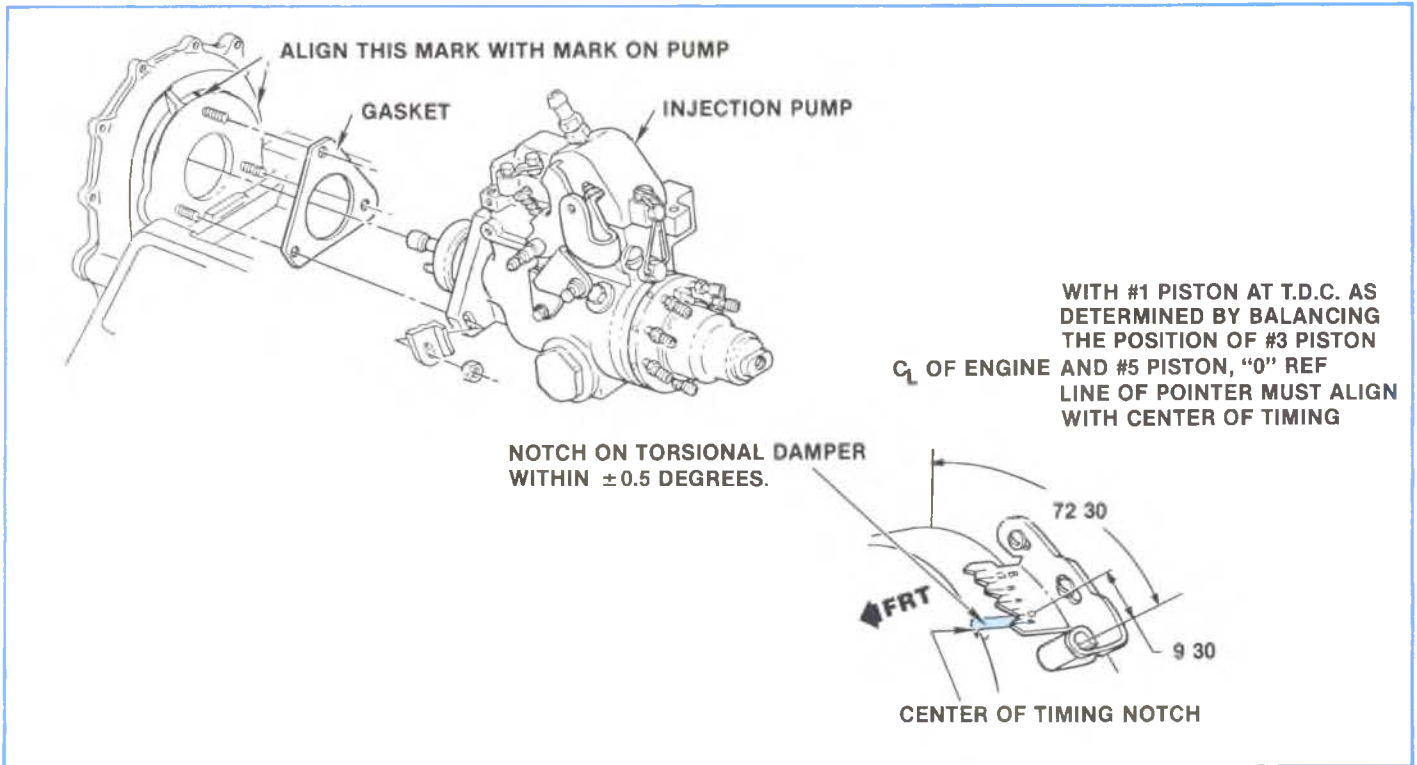

Figure 4-163, T.D.C. Mark.
1. Balance #3 and #5 piston positions to establish T.D.C. #1 cylinder firing (Figure 4-163).